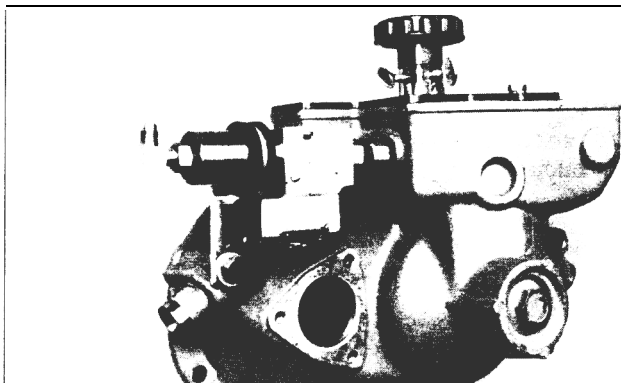

FIG. 1.6.13
- Adjust the switch bracket clamp to line up with the Detroit Diesel housing-to-blower bolt (Fig. 1.6.13).